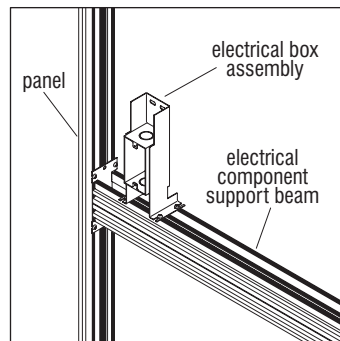

Figure 8
8. Electrical components installation (Figure 8).